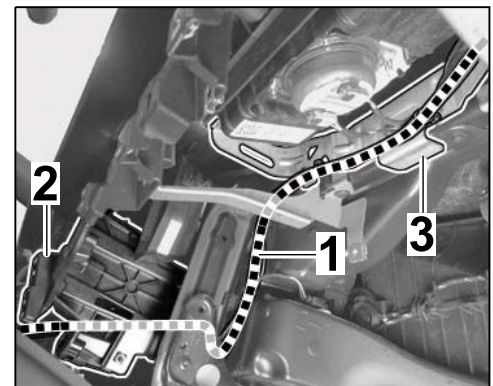

Figure 12
2.7.5 **ONLY:** Vehicles with PCM: Route GPS antenna line along the dashboard bracket to the PCM installation slot (⇒ *Figure 12*).